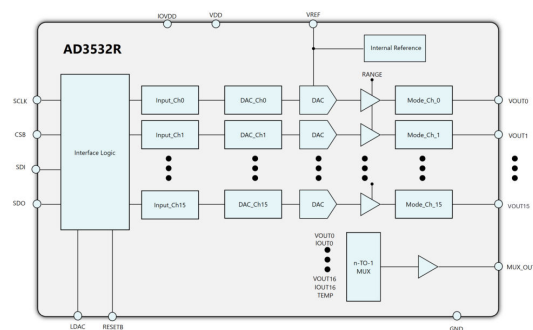

Figure 4. Chip Block Diagram of the AD3536R/AD3532R
4. Double-click the AD3536R/AD3532R chip to access the chip block diagram. This view provides a basic representation of the functionality of the board. The main functions of the board are labeled in Figure 4.